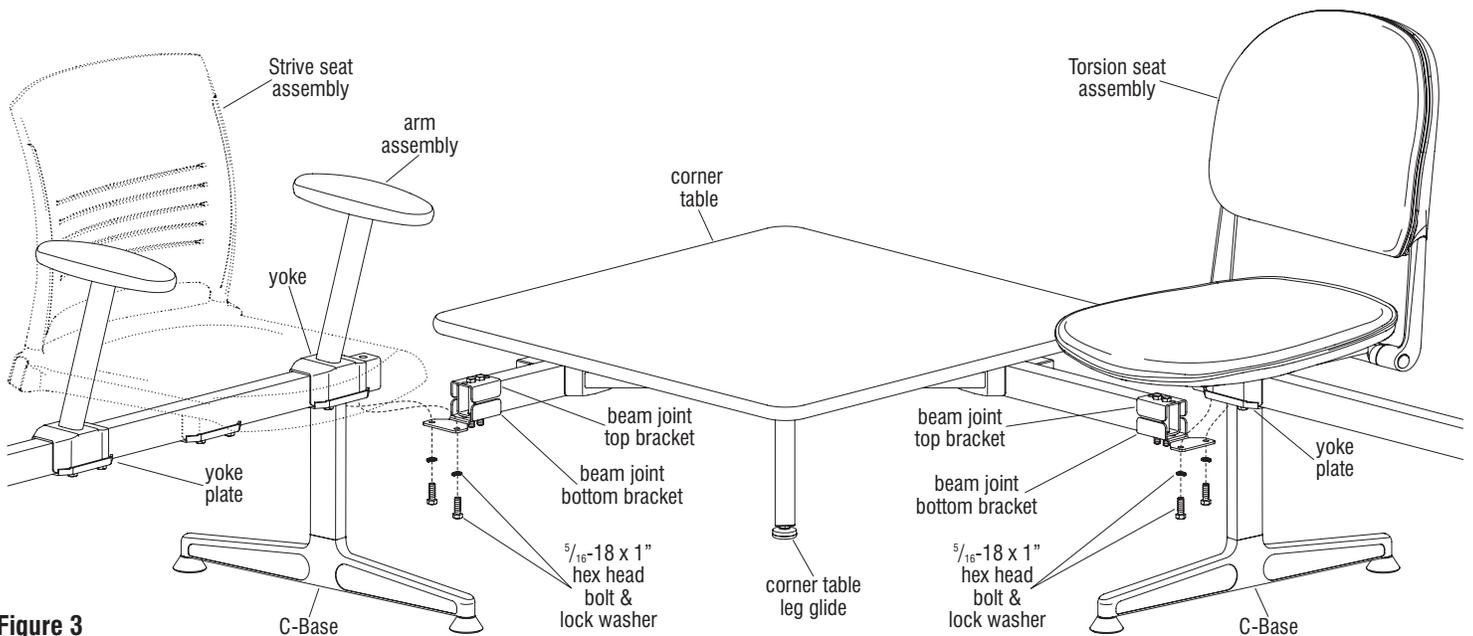

Figure 3
assembled corner table unit. It is recommended to assemble corner table to tandem units at or near their final installation location (Figure 3).
installation. With two or more people, hold the corner table in place and align the mounting holes of the two beam joint bottom brackets with the mounting holes in the yoke plate of an arm, or yoke plate of a C-leg (where bolts were removed in step 13). The corner table beams may need to be adjusted in or out as required (bolts left loose in step 11) to properly space the corner table to either an arm or a seat on a tandem seating unit (Figure 3).
13. At the locations where the corner table beams will attach to the tandem seating unit (either directly under a yoke plate of a C-base or yoke plate of an arm), remove the two outermost bolts of both units at the installation locations as illustrated (Figure 3).
16. Once the corner table beams are securely attached to the beams of the tandem seating units, the corner table beam lengths can be fine-tuned under the corner table, then the four bolts (from step 11) must be tightened, securing the corner table beams to the corner table frame (Figure 3).